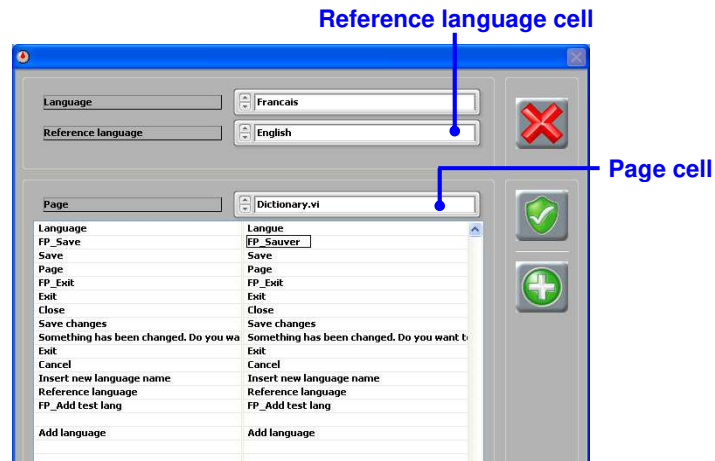

Fig. 6-3
2.  Click the **Dictionary** button to open the Language panel (see Fig. 6-3).
4. Select the language you want to use as a reference from the **Reference language cell** (see Fig. 6-3).